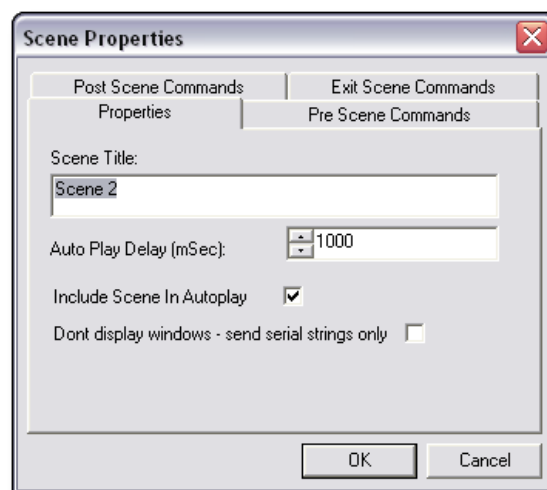

Figure 25. Scene Properties Dialog Box
2. Click the  button on the Scene Properties toolbar. The **Scene Properties** dialog box opens for the copied scene (see figure 25 on the previous page).
The **Scene Properties** box opens (see figure 25).
The Scene Properties dialog box opens (see figure 25 on page 42).
The **Scene Properties** dialog box opens (see figure 25 on page 42).
The **Scene Properties** dialog box opens (see figure 25).